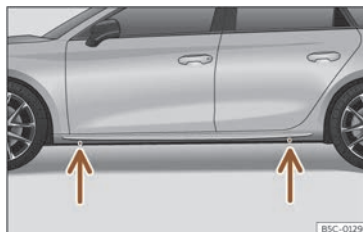

Fig. 234 Jack position points.
- Look on the strut for the mark of the jack support point (sunken area) closest to the wheel to be changed >>> **Fig. 234**.